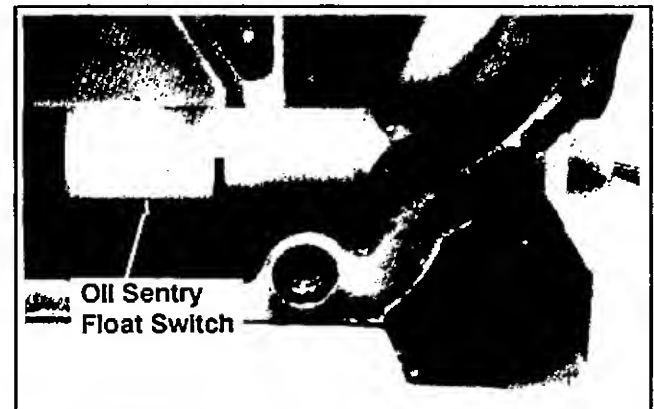

Figure 11-7. Installing Oil Sentry™ Switch.
1. Install Oil Sentry™ float switch in crankcase. Refer to Section 8 and Figure 11-7. Torque the float switch to **13.6 N·m (120 in. lb.)**.